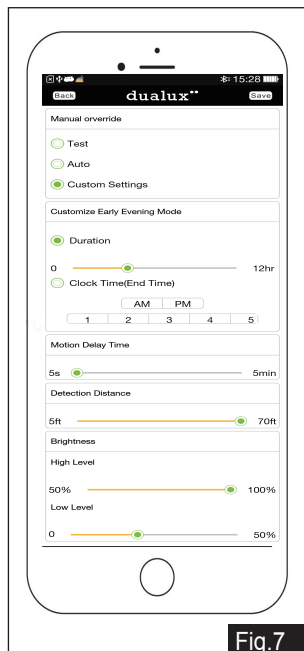

Fig.7
**Note: You can adjust the low-level (0~50%) and high-level (50~100%) brightness by using the brightness switch on the back plate. (See Fig. 7)**
**Note:** You can adjust the low-level (0~50%) and high-level (50~100%) brightness by using the brightness switch on the back plate. (See Fig. 7)